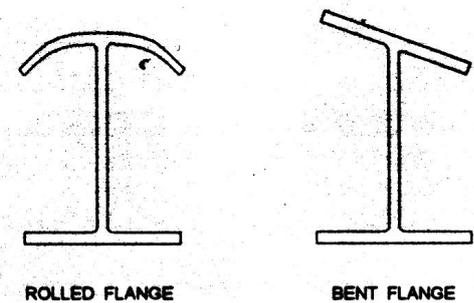

FIGURE 12
- Ø **Rolled top flange** – Overloading or off-center loading of the rail plate may cause the top flange of the track to roll or bend about the web of the beam. (see figure 12)